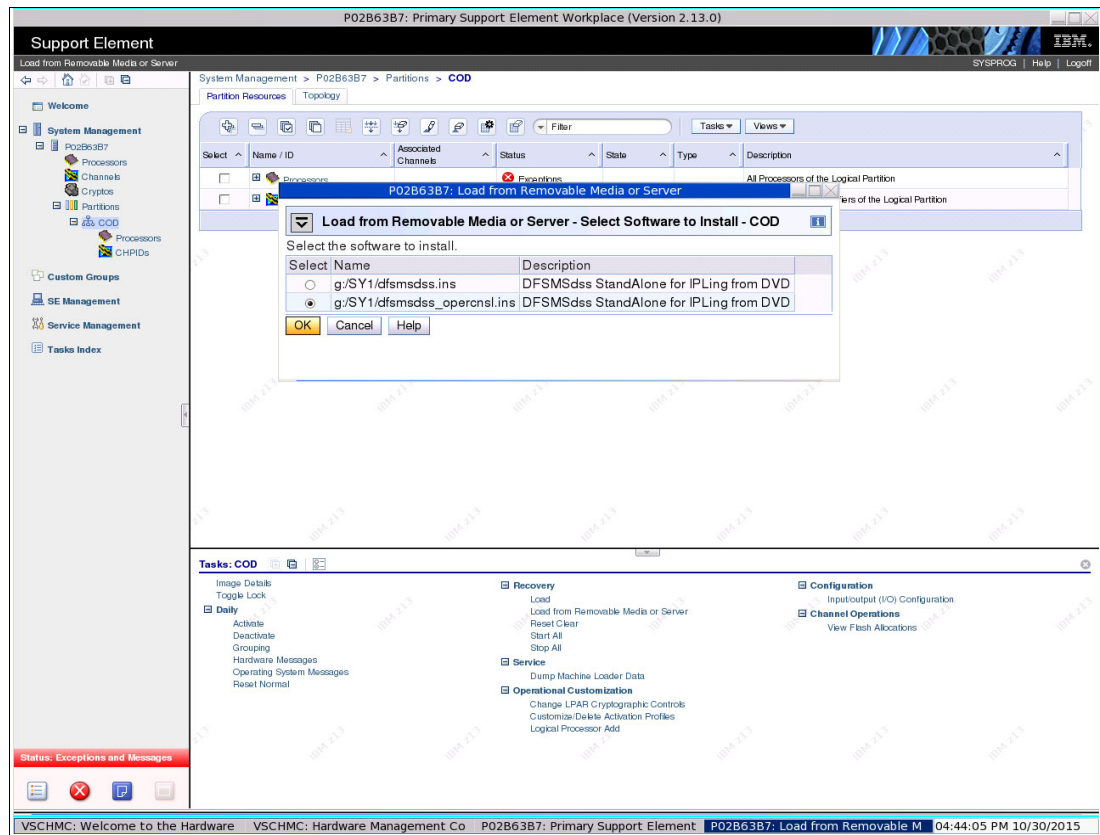

Figure 8-6 Console options
- After the DVD loads, we can choose whether to use an OSA console, which requires OSA-ICC customization or HMC console. Then, we click **OK**. On our example, we selected the **DFSMSDSS_OPERCNLS.INS** program to use the HMC console, as shown in Figure 8-6.